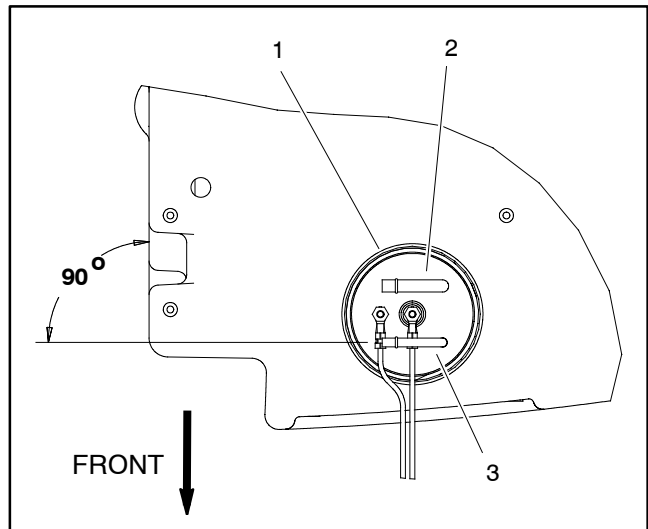

Figure 79
IMPORTANT: Before removing fuel sender from tank, note orientation of fuel sender fittings for assembly purposes (Fig. 79).
10. After testing, install sender into fuel tank and secure with gasket and fuel sender cap. Make sure that fuel fittings on sender are orientated at 90° from right side of tank as shown in Figure 79. Also, to prevent damage to fuel sender during assembly, make sure that fuel sender does not turn as sender cap is tightened.